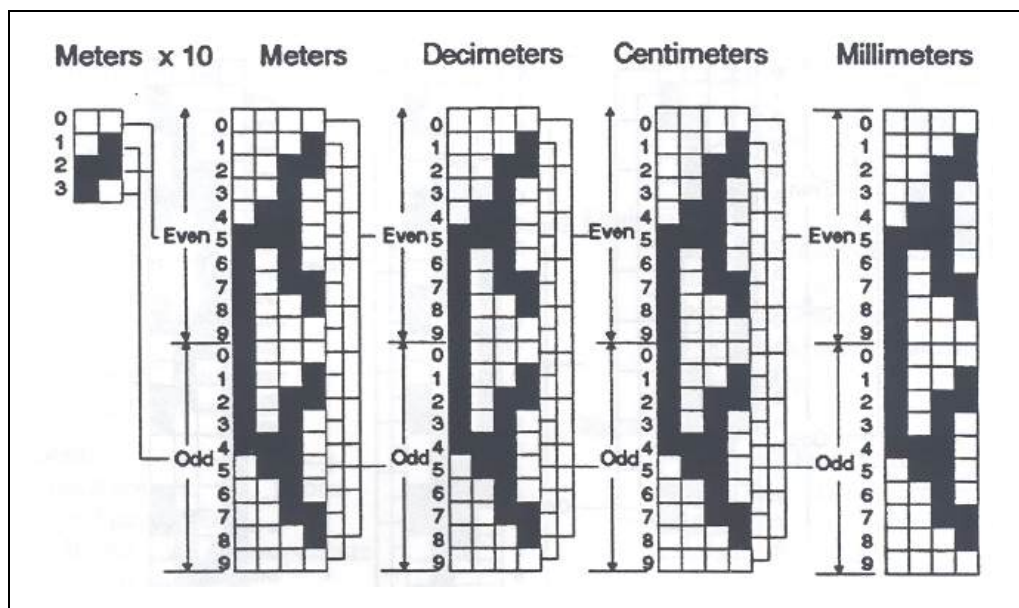
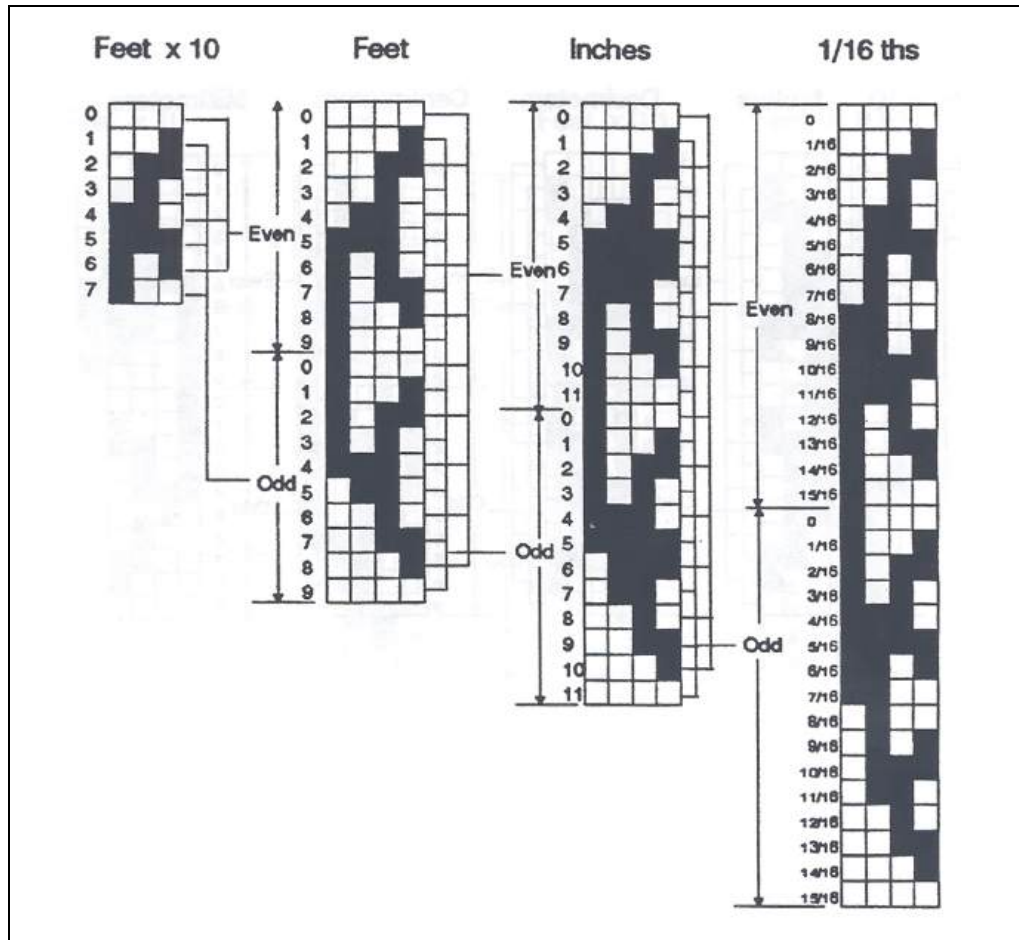

Figure E-7 Metric Code Chart
Figure E-8 Fractional Feet Code Chart
Zero (0) is considered to be an even number as are 2, 4, 6, and 8. All other numbers are considered as odd. Note that the requirement that only one code element change between adjacent increments is still satisfied. When the level reaches 0.19, the code is 0001 0000 and has reached a point where 0.09 (odd) is the same code as 0.00 (even). When the level reaches the next increment, only one code element changes (#11) from 0 to 1, and the code reads 0011 0000. The 0.1 code is now even, and the 0.01 code now used is also even. This similarity applies to the relationship between FT x 0.1 and FT x 1.0. The even and odd groups for the FT x 0.1 code refer to the odd and even conditions of the FT x 1 code, and the even and odd groups for the FT x 1 code refer to the odd and even conditions of the FT x 10 code. This coding principle also applies when the level increments are 1 mm in the metric system (see Figure E-7). A fractional code chart is also provided in Figure E-8.